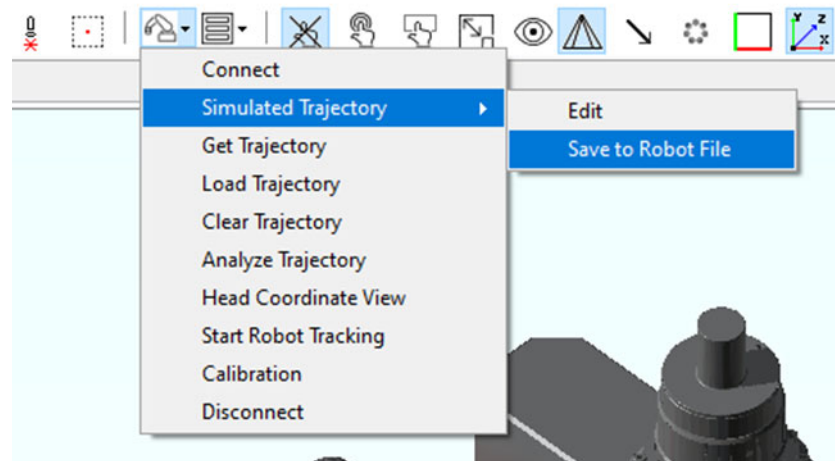

Figure 248: Save to Robot File
1. In the Tool bar, click on the robot icon, navigate to "Simulated Trajectory," and click "Save to Robot File." See Figure 248 (below).